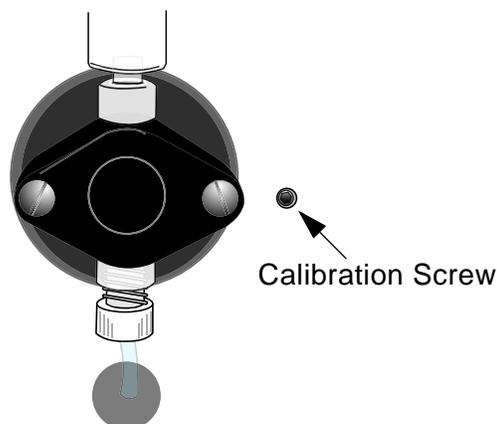

Figure 76. Pump Calibration Screw
- 5 Locate the pump's calibration screw in the hole on the right side of the pump, as shown in Figure 76.